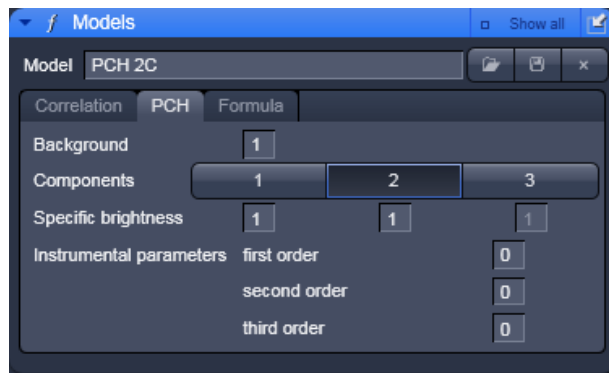

Fig. 289 Model panel, PCH tab
- Click on the **PCH** tab to open the PCH control panel (Fig. 289).